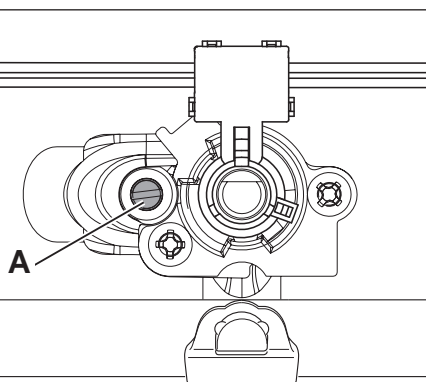

Fig. 2.7
- With a thin screwdriver turn the screw "A" until adjustment is correct (fig. 2.7).